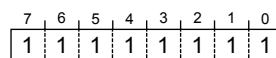

Figure 2: A Byte All Filled With Ones
If asked the value of the byte in Figure 2, the unsigned camp would say **255** while the signed camp would say **-1**. Both answers are correct. It depends on how the byte's contents are interpreted.
Applying Equation (1) to the contents of the byte in Figure 2 shows that it is valid.